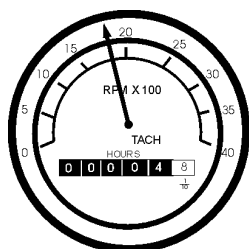

Figure 54. Engine Tachometer Gauge
17. The *tachometer gauge* (Figure 54) will indicate the speed of the engine when the generator is operating. Under normal operating conditions this speed is approximately 1800 RPM's.